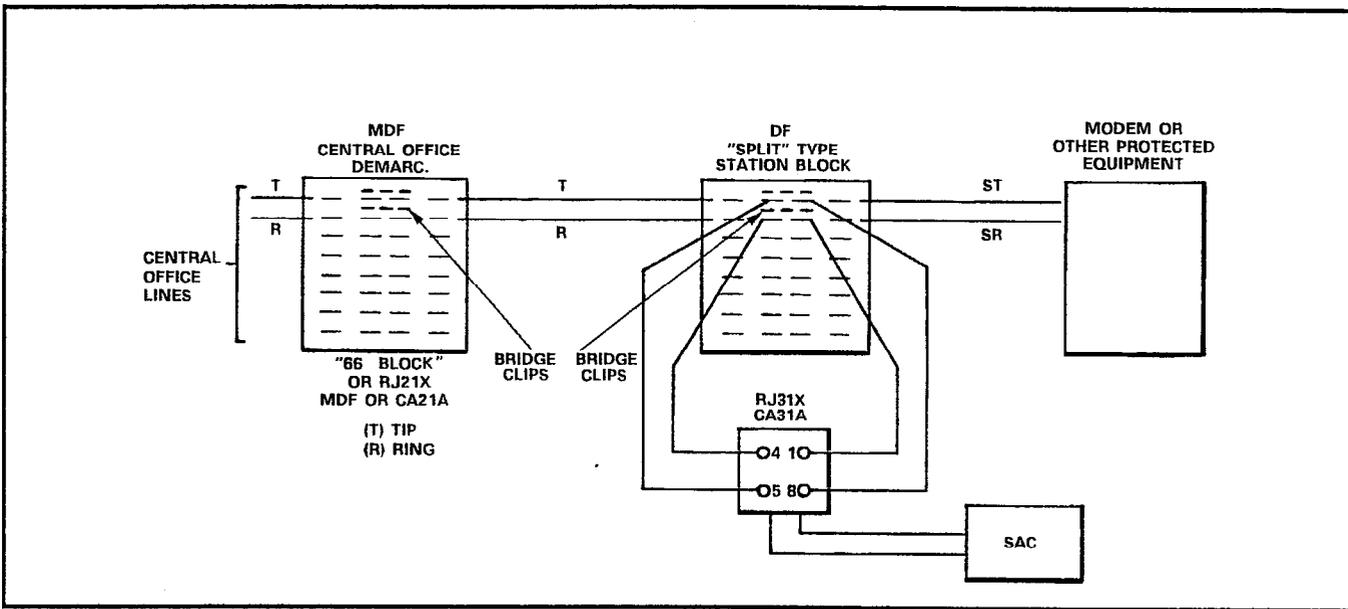
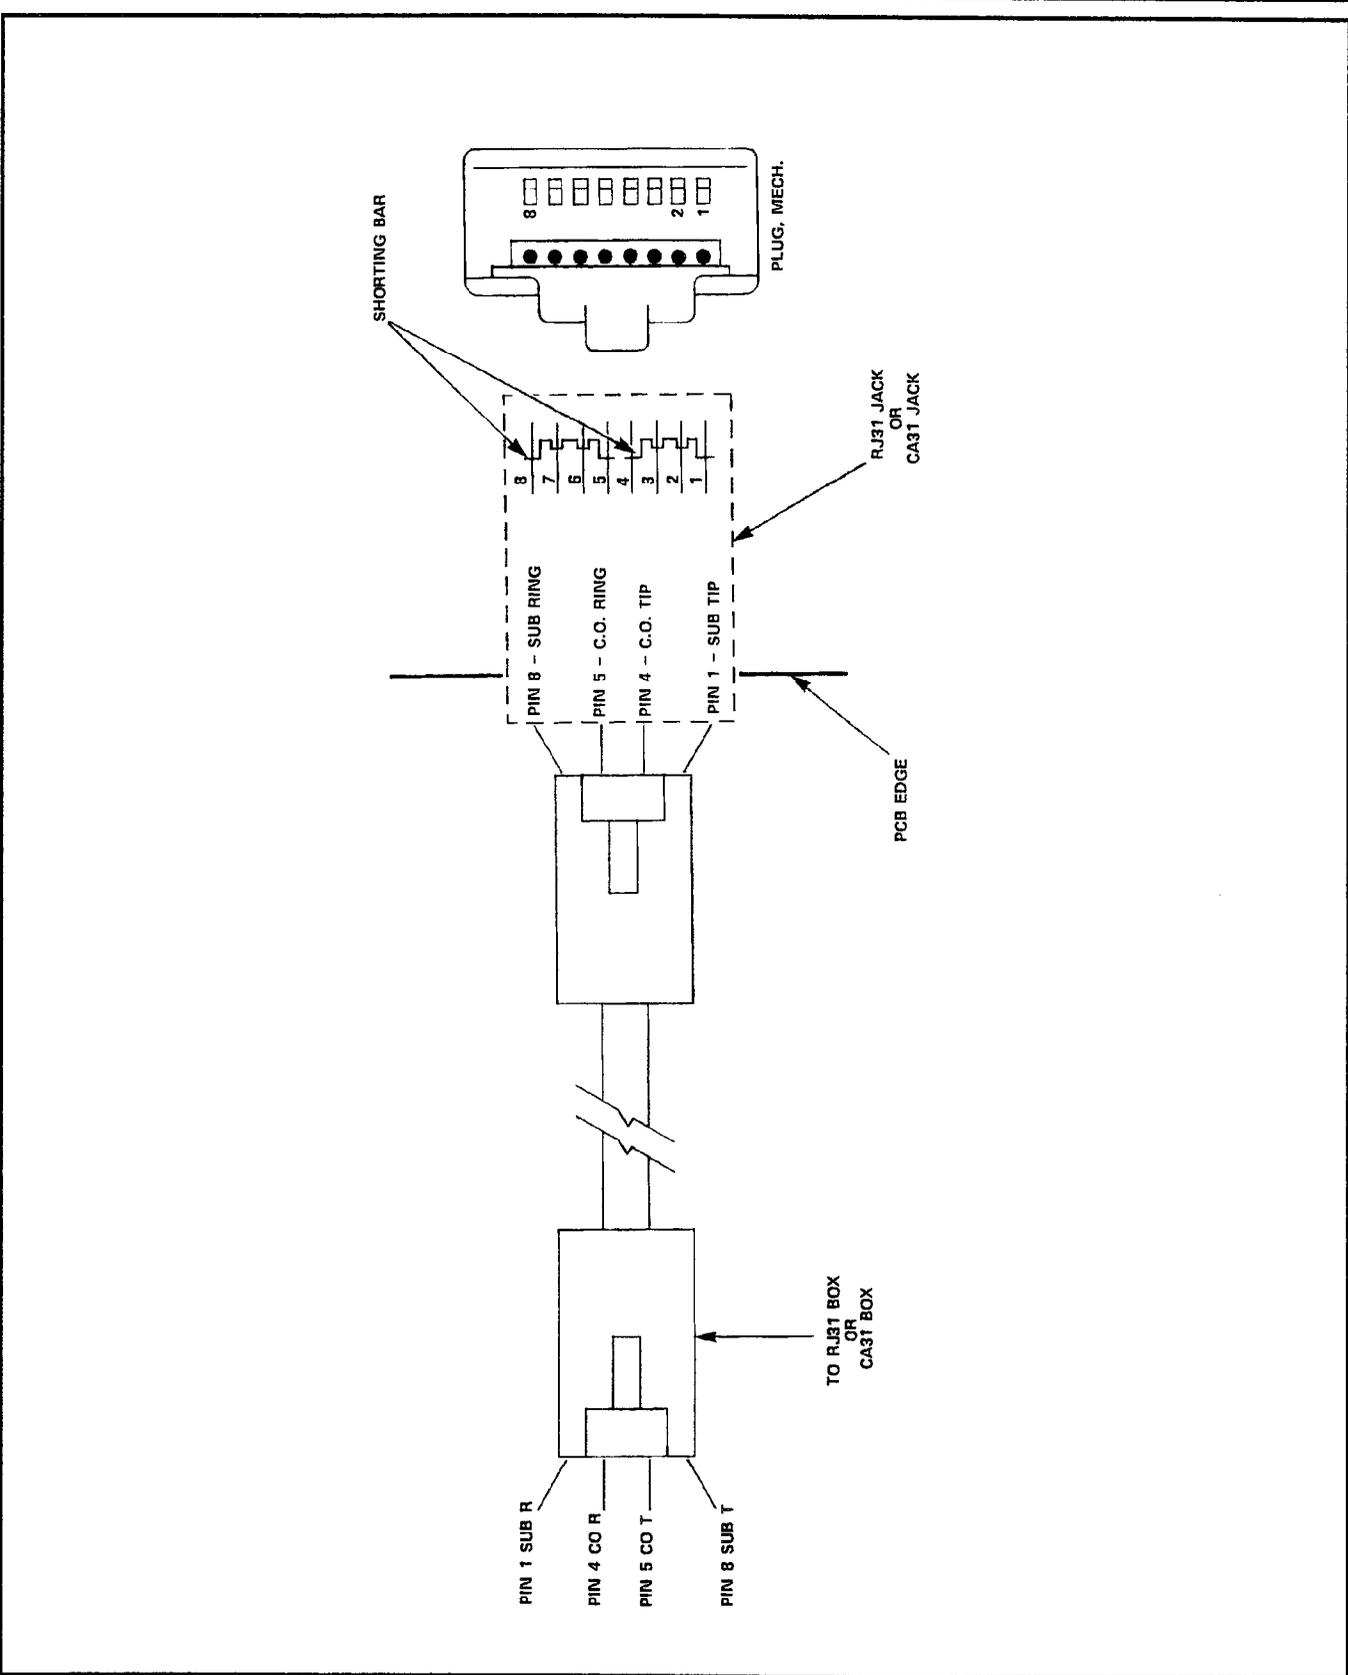

Figure 4-5, Typical Connection Configuration
Figure 4-7, USOC RJ31X/CA31A Jack and Cable Assy.
4.15 Figure 4-7 illustrates the USOC RJ31X/CA31A Connector and cable assembly as used by the SAC. Figure 4-5 illustrates the installation wiring of the Telco-supplied RJ31X/CA31A USOC jack and other connections from the Central Office through to the Modem or other protected equipment. For the unit to operate properly, the bridge clips at the "split" type station block must be removed.